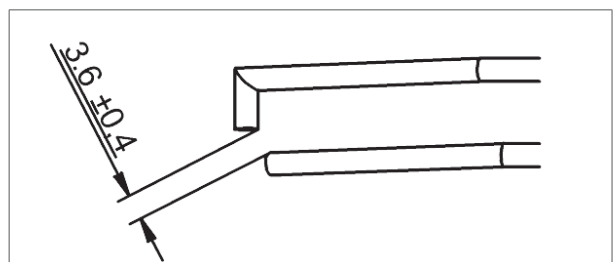

Figure 24 - Distance between the two electrodes
- b. The distance between the two electrodes should be (\pm) mm (figure 24).